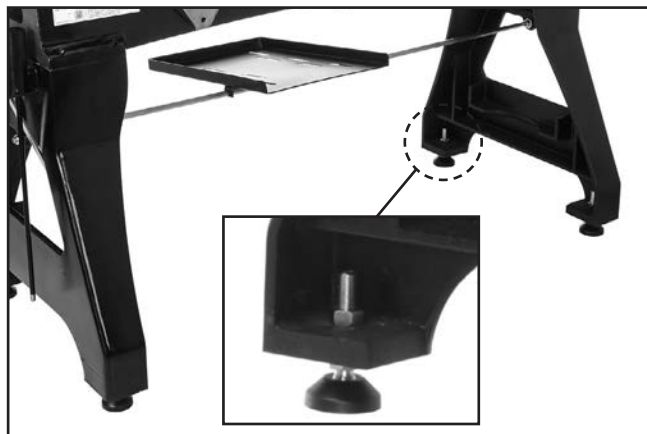

Figure 20. Machine lifted for feet installation.
11. With lathe still supported by lifting straps, use forklift to raise lathe 4 to 5 inches in preparation for installing machine feet (see **Figure 20**).
12. Remove top hex nut from feet, insert feet in mounting holes in leg (see **Figure 20**), then thread top hex nut back on. Do not tighten hex nuts yet.